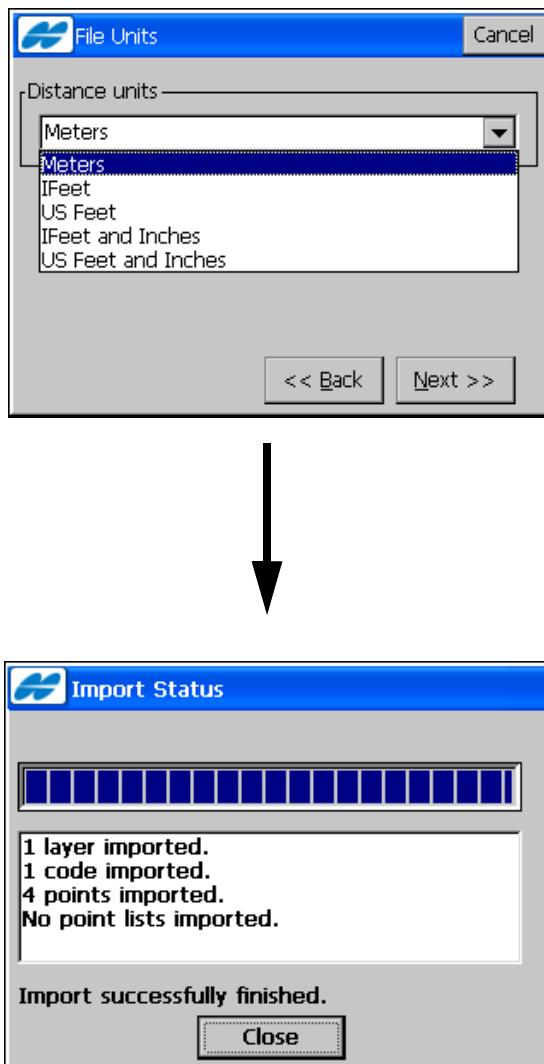

Figure 5-20. Select Latitude/Longitude Format
- **Next** – opens the **File Units** screen if a type of geodetic coordinate is selected (Figure 5-20 on page 5-19).
On the **File Units** screen (Figure 5-20 on page 5-19), select the format you want to represent the degrees of Latitude and Longitude in the exported file from the drop-down list.
- **Next** – opens the **Import Status** screen and starts the Export process (Figure 5-20 on page 5-19).
On the **Import Status** screen (Figure 5-20), tap the **Close** button to return to the main screen.